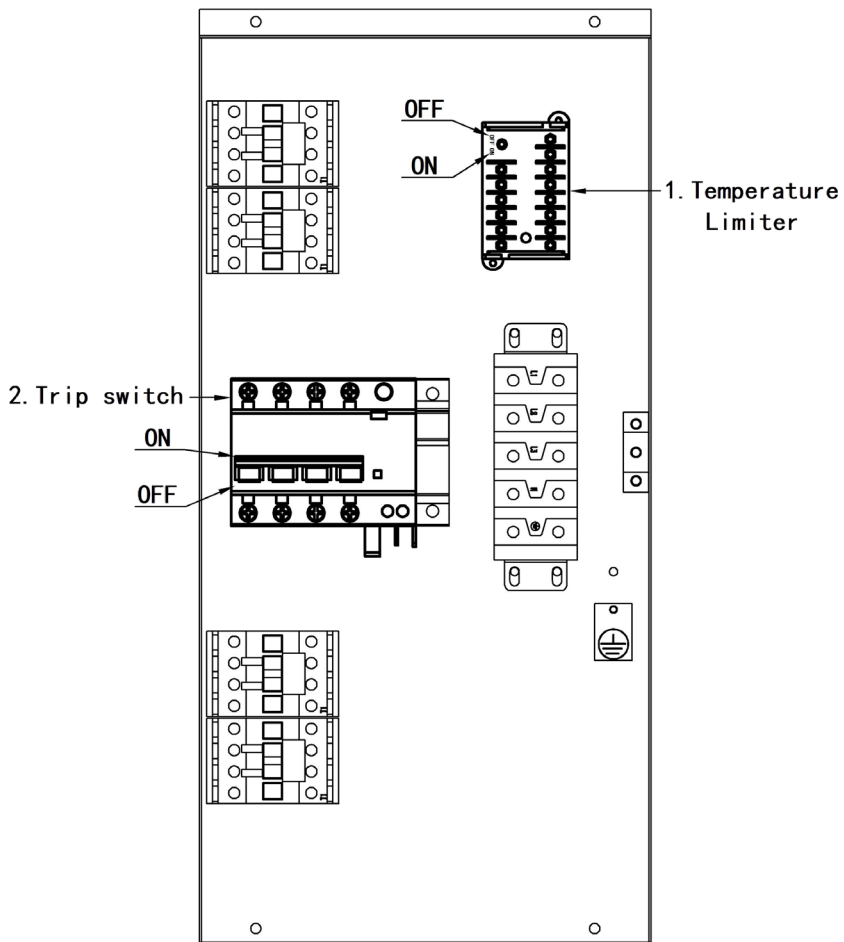

Figure 2: Restoration of Abnormal Temperature Protection
- To resume from Abnormal Temperature Protection, first cut off the external power supply of the oven (make sure to turn off the power supply of the oven and the external connection, and ensure that the oven is not energized), the open the electrical box and turn on the trip switch (see figure 2), and the oven will resume to the Ready-to-Work State.